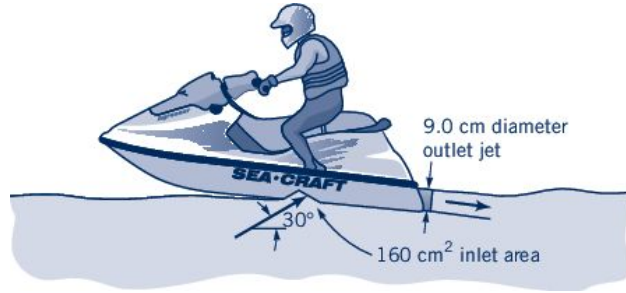

Figure 8: See problem 4.
**Problem:** The thrust developed to propel the jet ski shown in Figure 8 is a result of water pumped through the vehicle and exiting as a high-speed water jet. For the conditions shown in the figure, what flow rate is needed to produce a  $1.3\text{ kN}$  thrust? Assume the inlet and outlet jets of water are free jets.